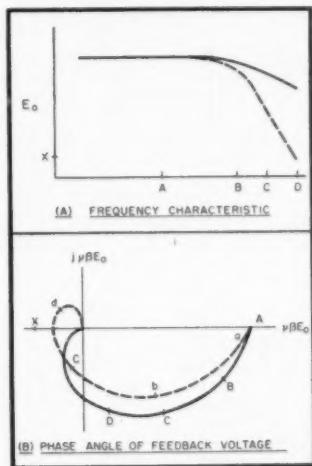

Fig. 1. Amplitude and phase of the feedback voltage.
The effects of phase shift in a feedback amplifier may best be understood by reference to Fig. 1 (A), which shows the normal gain-frequency curve of an amplifier. Points A, B, C, and D marked along the curve are transposed to the phase diagram of the feedback voltage Fig. 1(B). Point X represents the phase and magnitude of the input signal. Two conditions are shown on Fig. 1 which represent a possible high-frequency cutoff condition. These result in the corresponding curves of (B). It is seen that